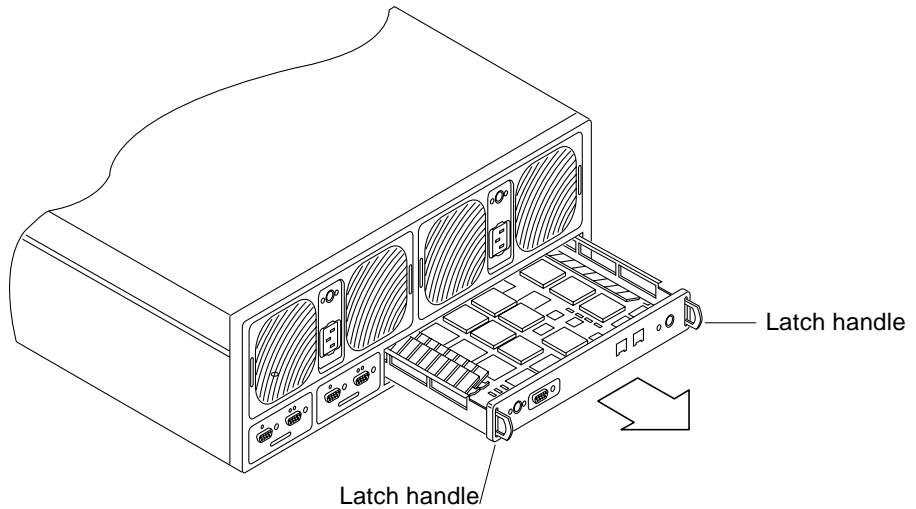

FIGURE 1-5 Removing the Controller Card From the Array
- 3. Unlock the controller card by pushing in on the latch handles shown in FIGURE 1-5 with the latch release tool.**